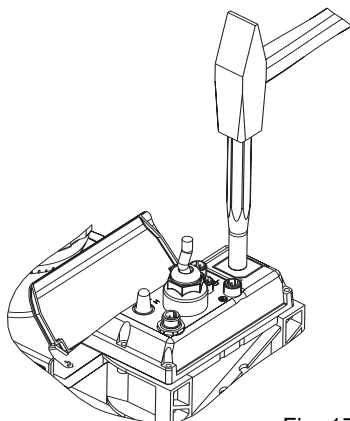

Fig. 17
- ▶ Place the S1Ca on a firm surface with the relay opening press-out section at the top (see fig. 17)